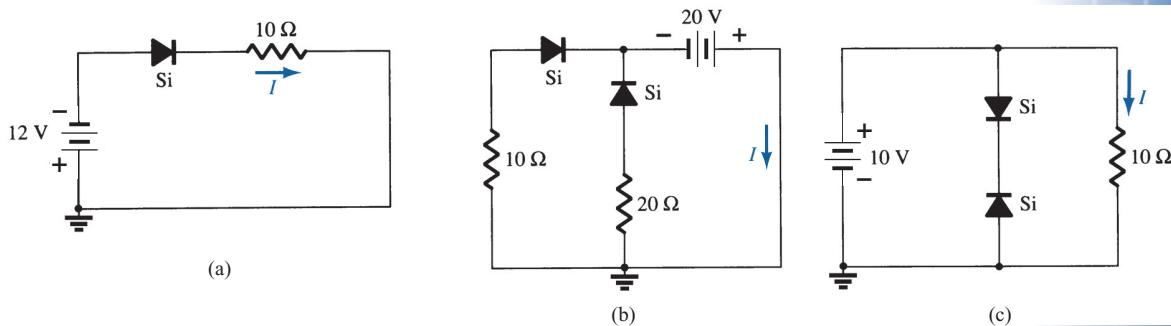

FIG. 155
5. Determine the current I for each of the configurations of Fig. 155 using the approximate equivalent model for the diode.